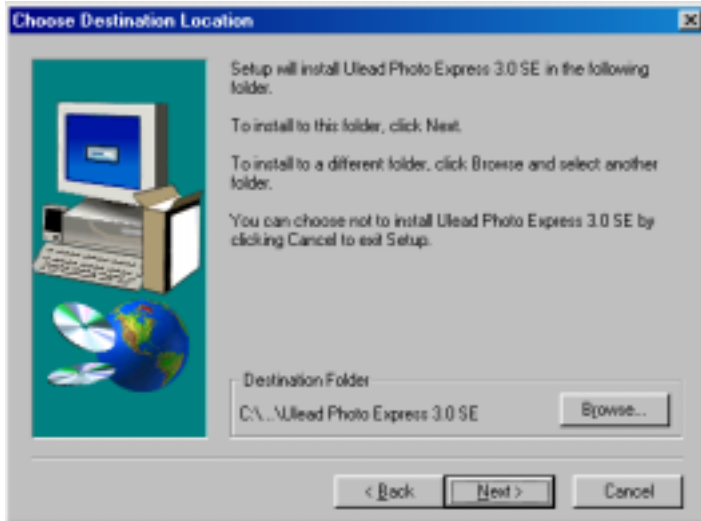

Figure 10: indicating program file
- 7. If you wish, indicate a location for Photo Express to be installed and click on 'Next'. See figure 10.